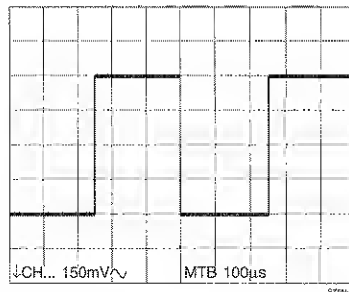

Figure 3.8
- Press the INV key and check for a display as shown in Fig. 3.8.